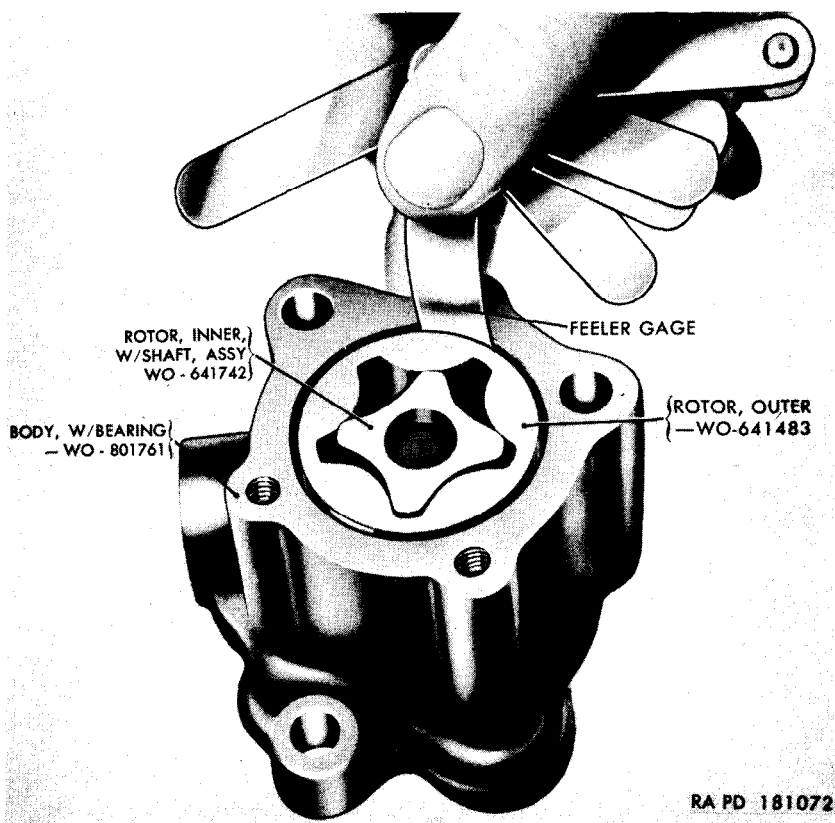

Figure 61. Checking outer rotor to oil pump body clearance.
- c. Remove the outer rotor (fig. 61) and the inner rotor with shaft assembly from the oil pump body.
- (5) Insert the oil pump outer rotor and the inner rotor with the shaft into the oil pump body with bushing. Check the clearance between the outer rotor and the oil pump body with a feeler gage (fig. 61). If the clearance exceeds 0.012-inch, replace the oil pump body with bushing.